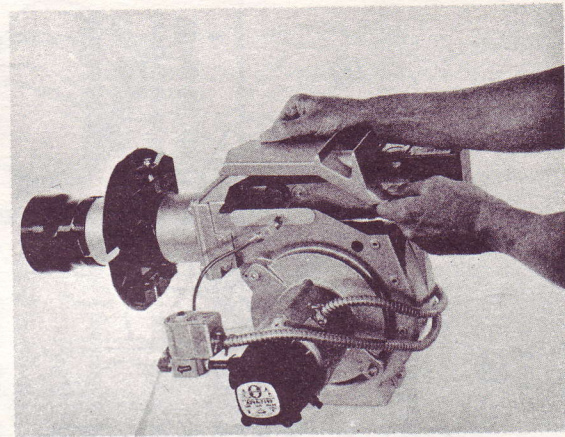

Fig. 3
- a) Open up the cover by removing the cover screws. See Fig. 3.